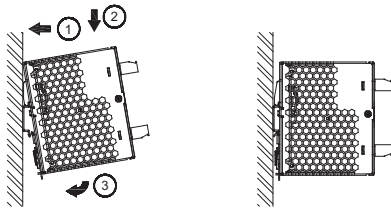

Figure 2
3. Mounting (Fig. 2)
Snap onto the DIN rail as shown in Fig. 2: